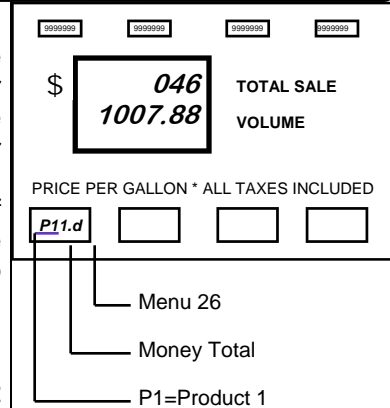

Figure 26.1
1. After the Manager's Mode has been accessed, press the number 2 and 6, then the **MODE** button on the keypad. The main sales display appears similar to Figure 26-1.
The main display shows the total money amount. For example: If the total money amount for the dispenser is \$461,007.88, the display appears as in Figure 26.1.